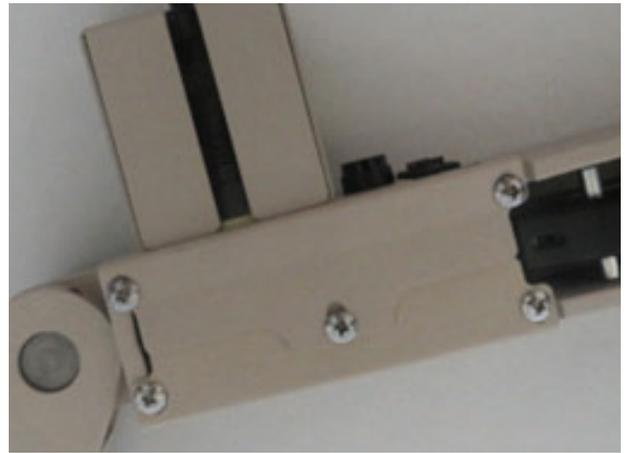

FIGURE 16
4.1.8. Re-attach Slit Lamp Arm Cover Plate by screwing in the (3) Screws in the bottom of the Slit Lamp Arm. (See Figure 16)